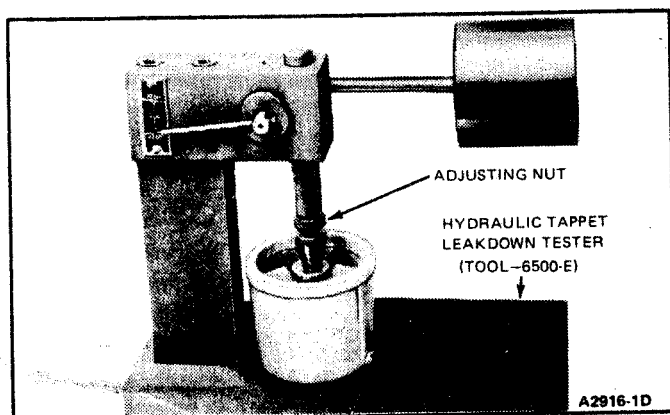

FIG. 19 Adjusting the Ram Length
4. Adjust the length of the ram (Fig. 19) so that the pointer is 1.59mm (1/16 inch) below the starting mark when the ram contacts the tappet plunger, to facilitate timing as the pointer passes the Start Timing mark. Use the center mark on the pointer scale as the Stop Timing point instead of the original Stop timing mark at the top of the scale.
Check for damaged and/or severely worn parts, for correct assembly and assure use of correct parts by proceeding, as follows, with the static engine analysis (Fig. 19).